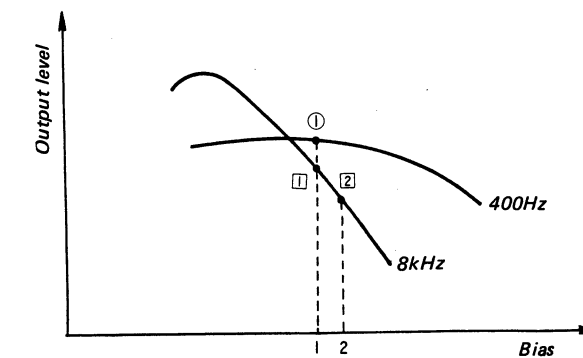

Fig. 18-3
For coarse adjustment, the bias is gradually deepened, even if the 8kHz level was lower than 400Hz when 400Hz and 8kHz were first recorded on the tape. See Fig. 18-3, 4. The bias curve is exaggerated for the sake of simplicity.
1. Compares ① and ① → if ① level is high → deepens bias.
2. Compares ① and ② → if ② level is high → deepens bias.
3. Compares ① and ③ → if ③ level is lower, end. Coarse adjustment is performed by deepening the bias value. (Other possibilities are shown in Fig. 18-3, 4.)